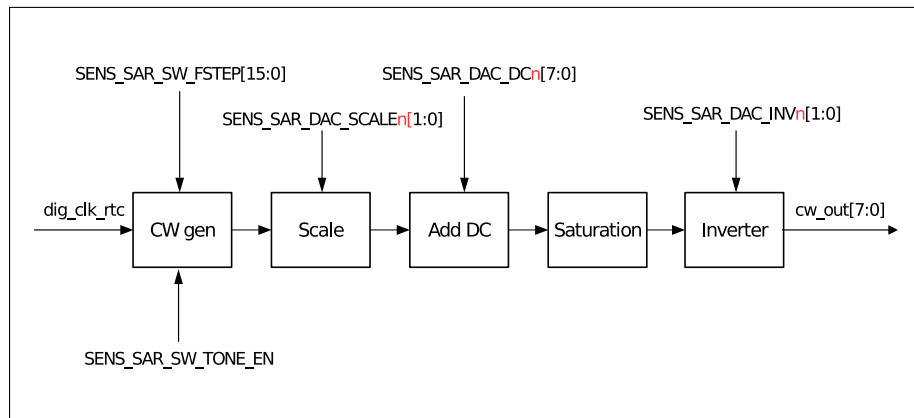

Figure 138: Cosine Waveform (CW) Generator
The cosine waveform (CW) generator can be used to generate a cosine / sine tone. A diagram showing cosine waveform generator's function is presented in Figure 138.